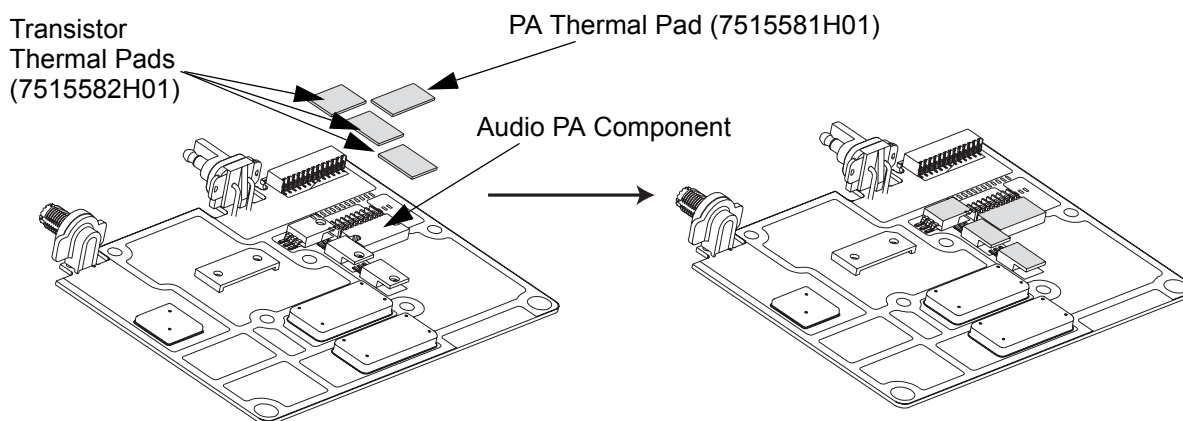

Figure 5-60 Placing Thermal Pads on PA and Transistor Components
3. Once the surface is clean and dry, remove each new pad from the shipping liner, and place in the proper location on top of each transistor component and the audio PA with the white side down (see Figure 5-60).